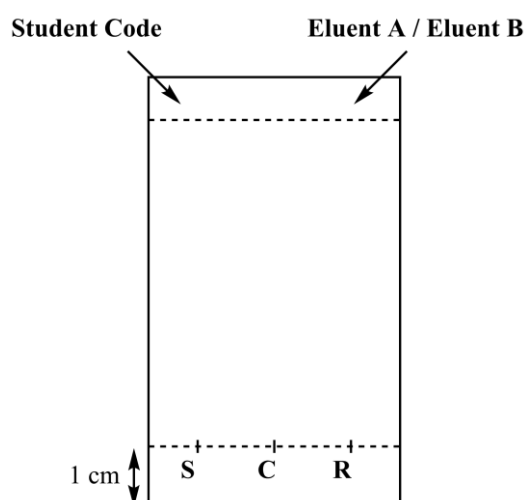

Figure 3. TLC plate preparation
- Prepare your TLC plate. Use a pencil to draw carefully the start line (1 cm above the bottom of the plate) and mark the positions in order to spot the 3 samples. Label them **S** (Starting material), **C** (Crude product) and **R** (Recrystallized product), as described in Figure 3. On the top left of the plate, write your **Student Code**. On the top right of the plate, write the eluent you use (first **Eluent A**, then **Eluent B**). Spot the three samples on the plate, using capillary spotters.